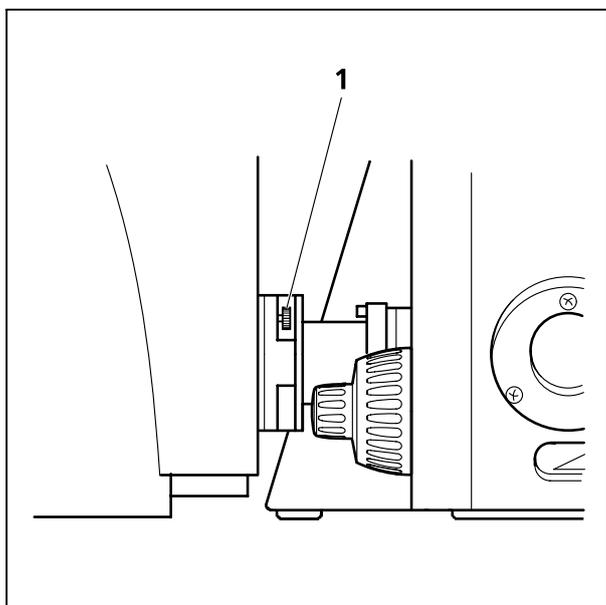
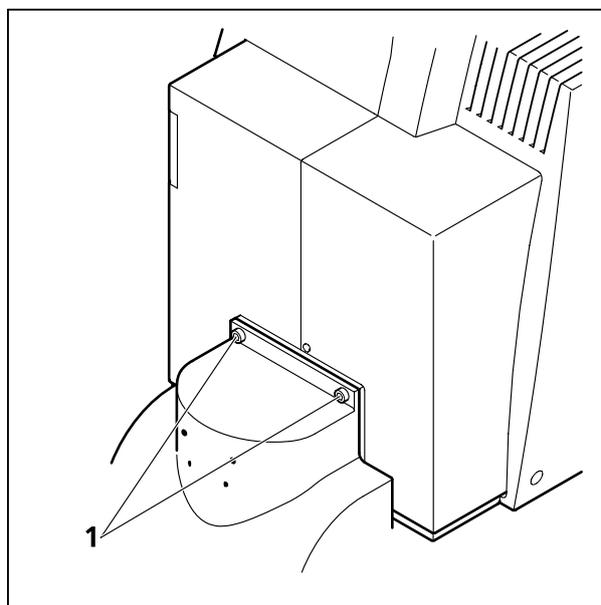

**Fig. 8-7** Position of the screw on the LSM 510 META scan head
**Fig. 8-8** Position of the screw on the LSM 510 scan head
- Loosen the screw on the lower end of the scan head (Fig. 8-7/1 and Fig. 8-8/1)
- Slowly pull the scan head away from the microscope port or the tube. For mounting the scan head onto a microscope, make sure the pins and the electronic connections of the safety interface match closely. Fasten the screws on the front of the tube (Fig. 8-10/1) or at the microscope port (Fig. 8-9/1) followed by fastening the screw on the back of the scan head (Fig. 8-7/1 and Fig. 8-8/1).